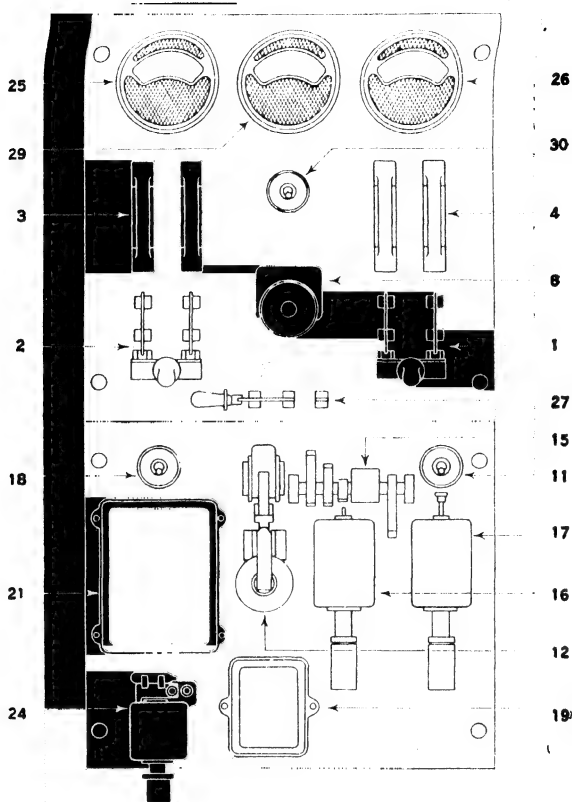
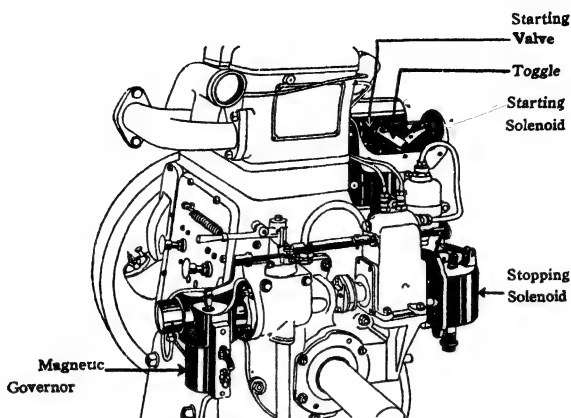

FIG. 18. - SWITCHBOARD FOR AUTOMATIC DIESEL-GENERATING SET WITH FLOATING BATTERY.
FIG. 21.—AUTOMATIC EQUIPMENT ON DIESEL ENGINE OF 10 kW PLANT
Numbering of components as in Fig. 18 with following additions: (9) Starting Valve Solenoid on engine; (13) Starting Contactor Coil; (14) Stopping Solenoid or Fuel Cut-off Solenoid on engine; (28) Magnetic Governor on engine for ensuring constant voltage. The various automatic components fitted on the engine are shown in Fig. 21.
See also Figs. 18, 19 and 21.